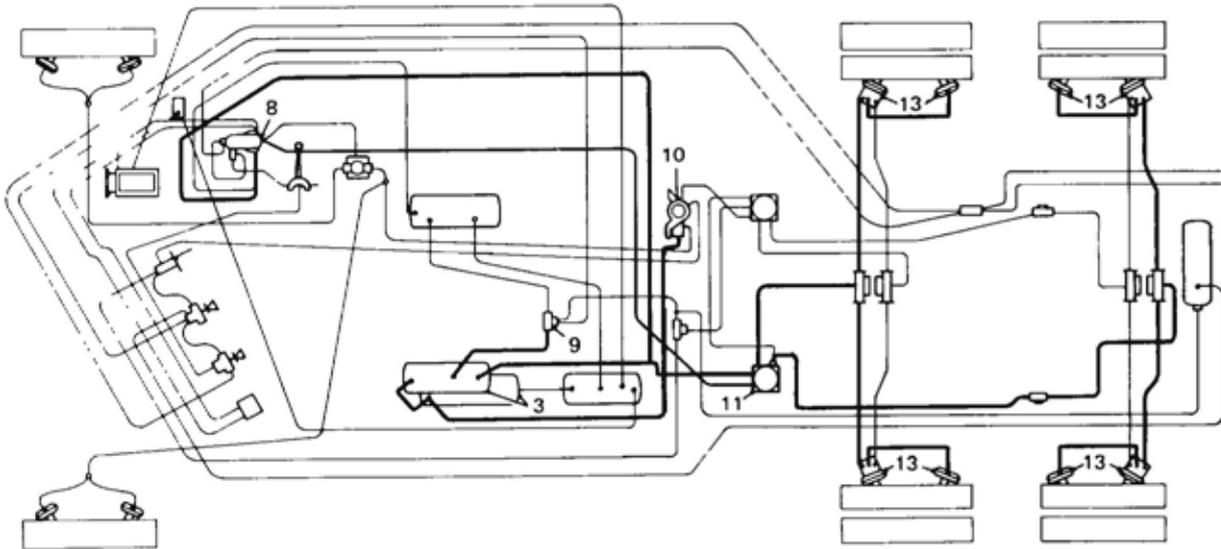

Figure 93 Brake System – Primary Circuit
**142.** The primary storage tank (Figure 93, Item 3) supplies air to the top section of the treadle valve (Figure 93, Item 8), double check valve (Figure 93, Item 9), the spring brake control valve where it acts as a sensor line (Figure 93, Item 10), and the service brake relay (Figure 93, Item 11). When the treadle valve is depressed, air flows from the treadle valve (Figure 93, Item 8) to the service brake relay (Figure 93, Item 11). This air acts as a signal or trigger opening the service brake relay (Figure 93, Item 11) allowing the air, sourced from the supply tanks (Figure 93, Item 3), to flow through the relay and into the rear service brake chambers (Figure 93, Item 13). The pressurised air acts on a diaphragm in the service brake chamber, which forces the push rod out, driving the wedge between the brake shoes and expanding them against the drum.